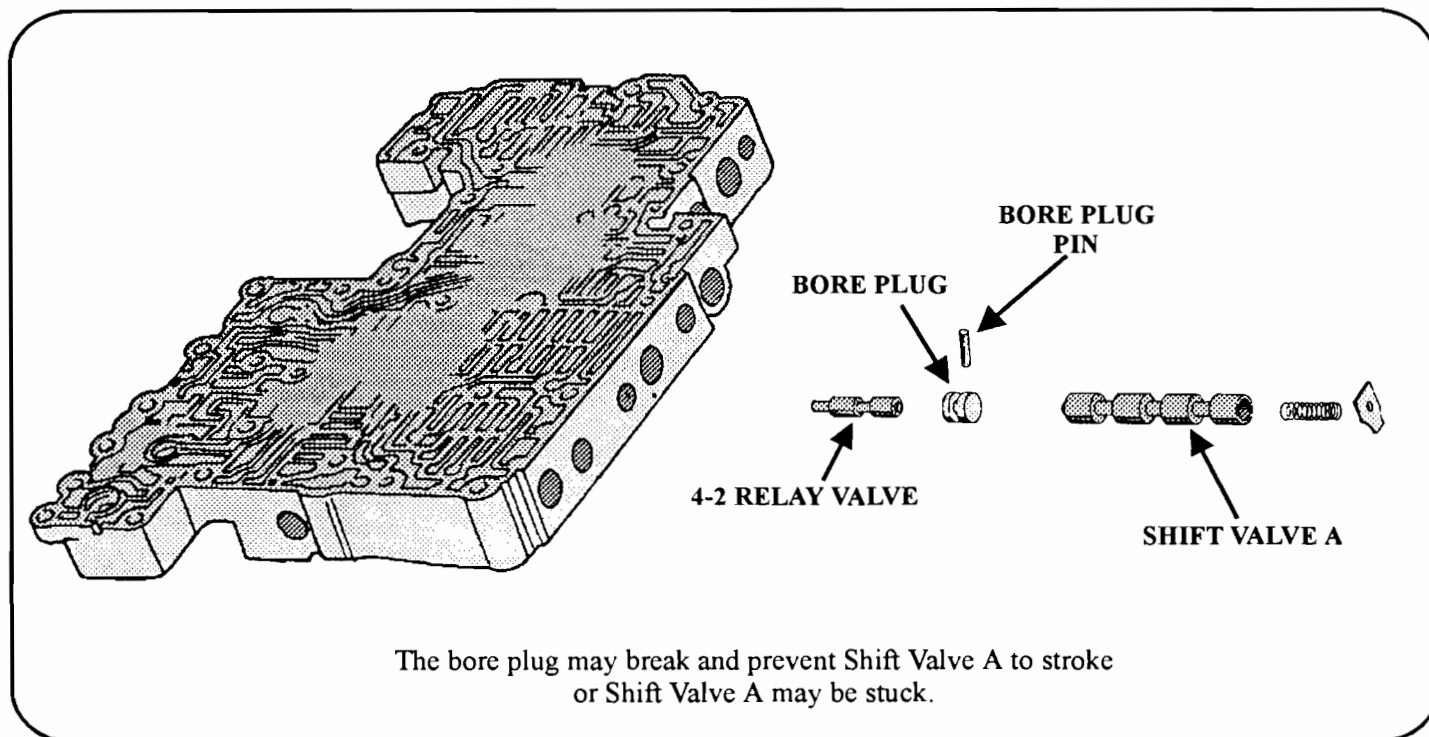

Figure 62
3. Replace the broken bore plug, making sure that no pieces are lodged in the worm tracks. Clean the bore so that the plug fits smoothly and the the roll pin holds it securely in place. See Figure 62.
\* Due to differences in certain line ups between the RE4RO1A valve bodies and the JR4O3-E valve bodies, only the shift valve A line up is addressed in Figure 62. For other line up identification, refer to the proper Techtran Manual.